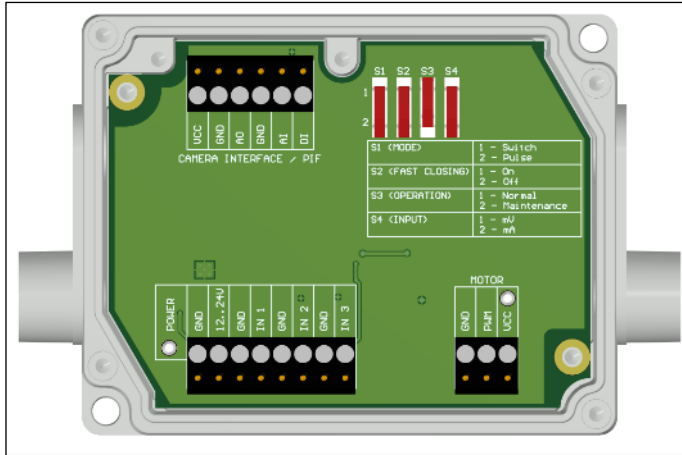

Figure 18: Control box of shutter, dimensions (see **Figure 8**)
- When using more than one shutter and the opening / closing of the shutter should be simultaneously, the switch S4 on one control box must be set to mA and the others to mV (see **Figure 18**).